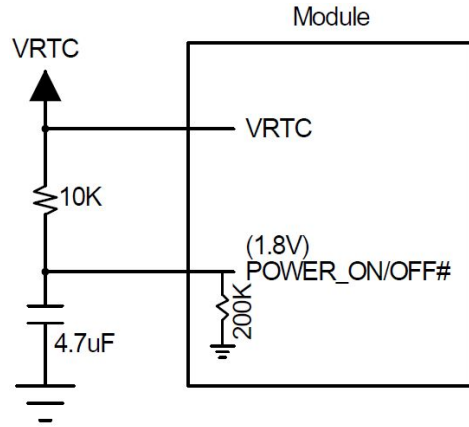

Figure 3-6 Circuit for Automatic Start-up
- Automatically start-up when powered on, and the circuit design is shown in Figure 3-6: